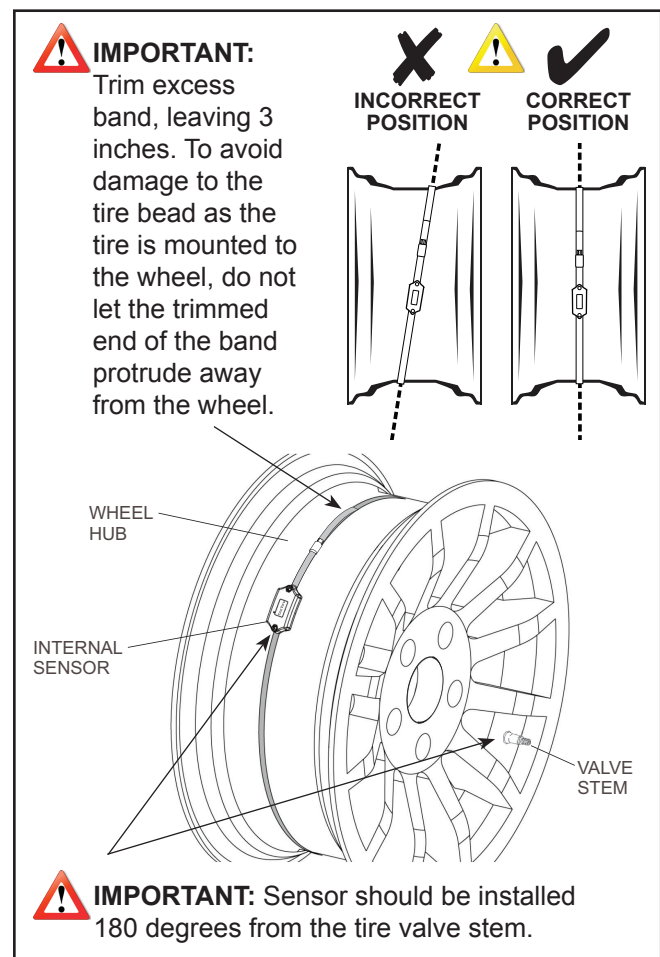

Figure 2: Internal Sensor Installed
**! IMPORTANT:** Sensor should be installed 180 degrees from the tire valve stem. See Figure 2.
5. Tighten the band clamp on the wheel hub. See Figure 2.
**! IMPORTANT:** Trim excess band, leaving 3 inches. To avoid damage to the tire bead as the tire is mounted to the wheel, do not let the trimmed end of the band protrude away from the wheel. See Figure 2.